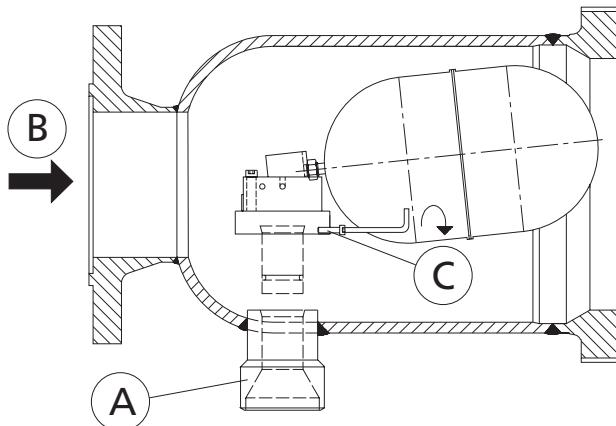

Fig. 1
Mount the float valve horizontally with the outlet branch pos. A (fig. 1) vertically down-wards.
The flow direction has to be from the flanged inlet as indicated with the arrow pos. B (fig. 1)
- Unscrew the screw pos. C (fig. 1) and lift up the float assembly from the outlet.
NB! When demand is heavy at low temperature operation, we recommend to check the velocity in the outlet branch. If necessary the diameter of the pipe which is welded on to the outlet branch pos. A (fig. 1) can be increased.
Installer svømmerventilen i vandret position med afgangsrøret pos. A (fig. 1) lodret nedad.
- Løs skruen pos. C (fig. 1) og løft flyder mekanismen op af afgangsrøret.
OBS! Når stor kapacitet kræves ved lav temperatur, anbefaler vi, at hastigheden i afgangsrøret kontrolleres. Om nødvendigt kan diameteren på røret, der svejes på svømmerventilens afgangsrør pos. A. (fig. 1), øges.